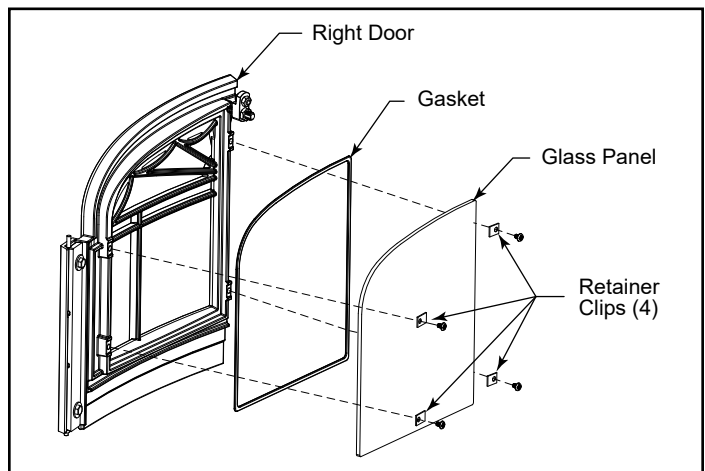

Figure 43 - Exploded view of the glass assembly for the right door.
2. Secure the glass on both doors with the retainer clips. Tighten all screws. (Figure 43)